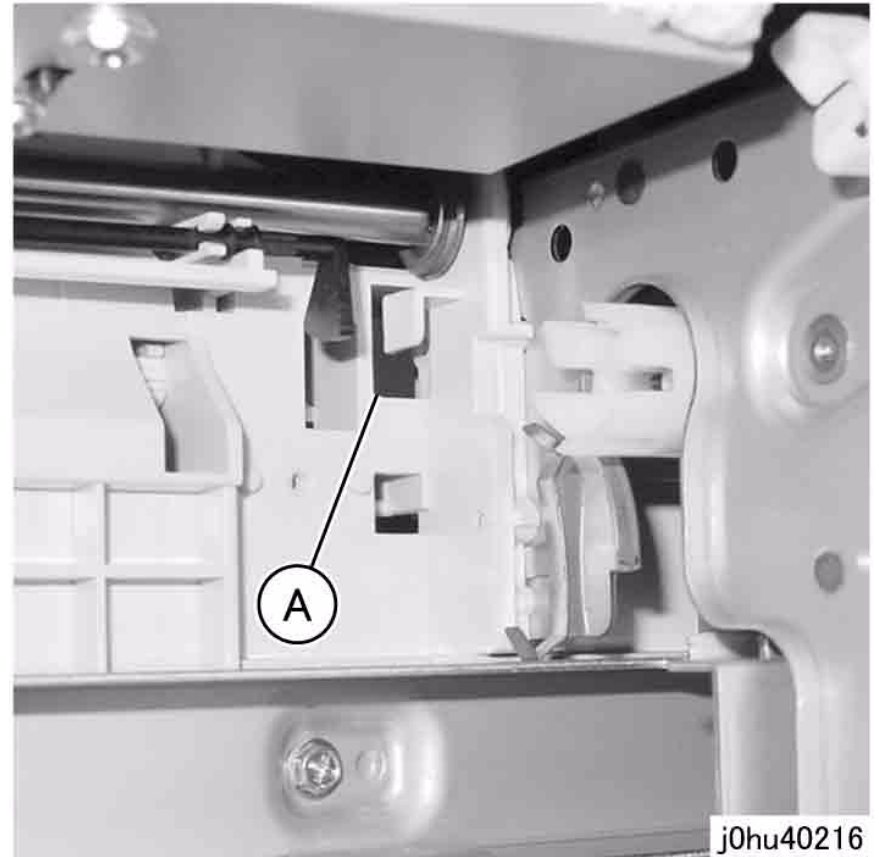

Figure 2 Tray 1 Interlock Switch Installation
2. Insert the Connector Housing of the Tray 1 Interlock Switch into the square hole of the frame (Figure 2).
- (A) Square hole